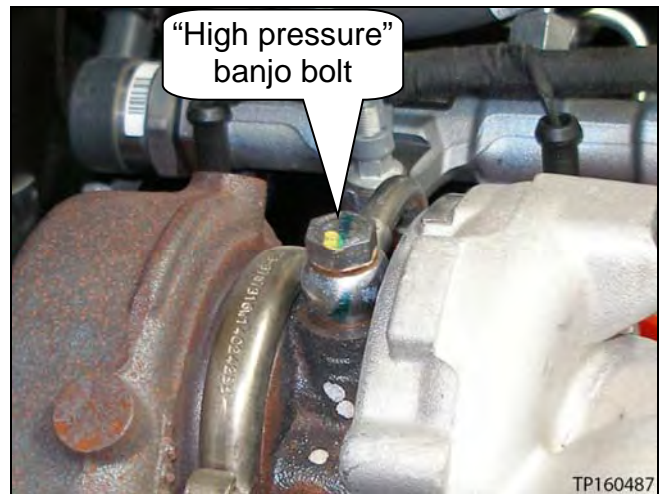

Figure 47
36. Remove the banjo bolts for the high pressure and low pressure turbochargers (see Figure 47 and 48).